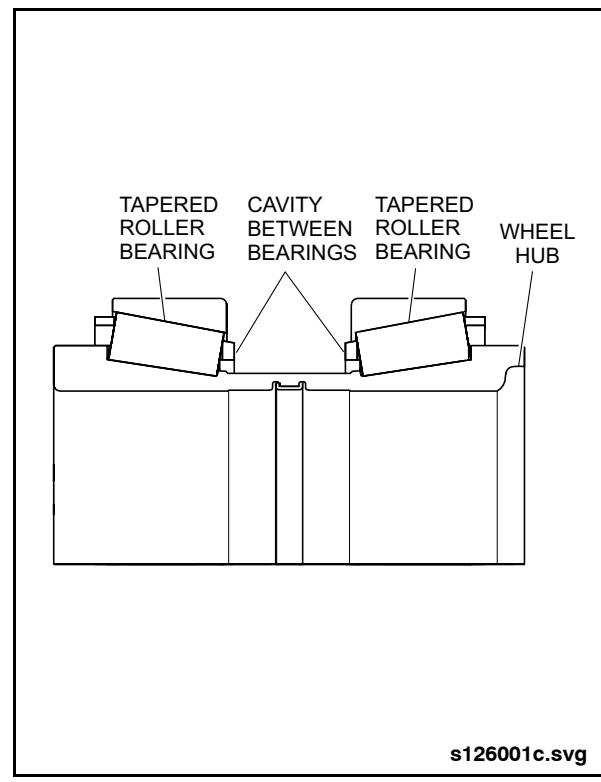

Fig. 2-25: Greasing Hub Unit Wheel Bearings
1. Apply high-temperature grease on the tapered roller bearings. See "Fig. 2-25: Greasing Hub Unit Wheel Bearings" on page 25. Refer to "Fluid & Lubrication Guide" in the Preventive Maintenance Section of this manual for a list of approved greases.